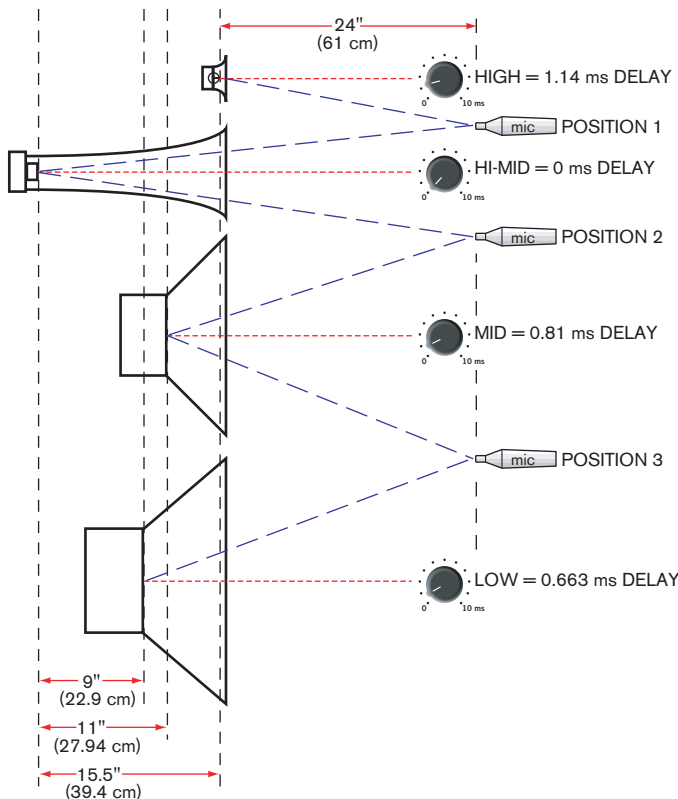

Figure 4. Delay settings calculated using furthest driver as zero.
2. Take the distance, *measured in inches*, for each driver and divide by 13.57. This gives the delay in milliseconds and pot rotation in "fractional-dots." See Figure 4.
*OK, so you want to do this the hard way.* The following example outlines one method for Signal Delay alignment of the system in Figure 4. The procedure easily adapts to other configurations.
- e. Place the RTA microphone about 24 inches [60 cm] away from the speaker stack, as close to equidistant to each driver as possible (see Figure 4).
- 5. Set the Delays starting with the driver furthest back (the one that gets zero delay) and work outward (see Figure 4).
- a. Place the RTA mic in Position 1 as shown in Figure 4.
- i) Referring to Figure 4, note the Hi-Mid Output is the furthest back and requires no delay.
- a. Place the RTA mic in Position 2 as shown in Figure 4.
- i) Referring to Figure 4, note that the Hi-Mid Output is the furthest back and requires no delay.
- a. Place the RTA mic in Position 3 as shown in Figure 4.